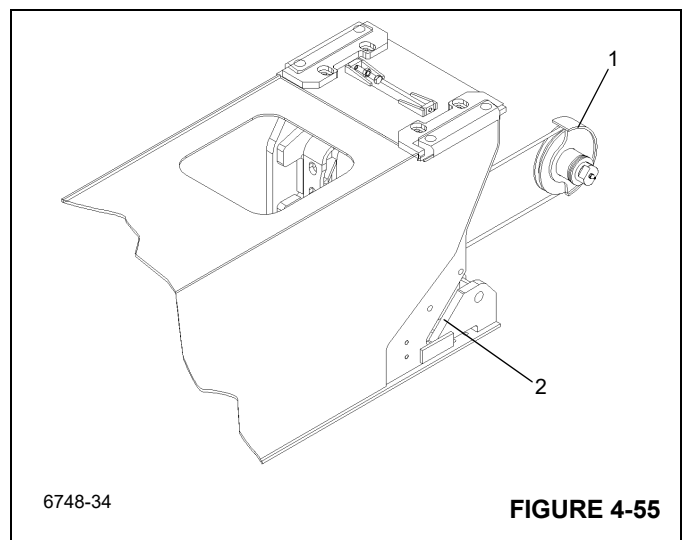

FIGURE 4-55
16. Reeve the fly retract cable around the fly retract cable sheave (1), (Figure 4-55) and install in the angled slots (2), (Figure 4-55) on each side of the outer mid section.